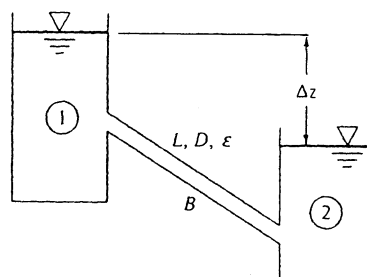

Fig. P6.55
6.83 For the system of Fig. P6.55, let $\Delta z = 80$ m and $L = 185$ m of cast-iron pipe. What is the pipe diameter for which the flow rate will be $7 \text{ m}^3/\text{h}$?